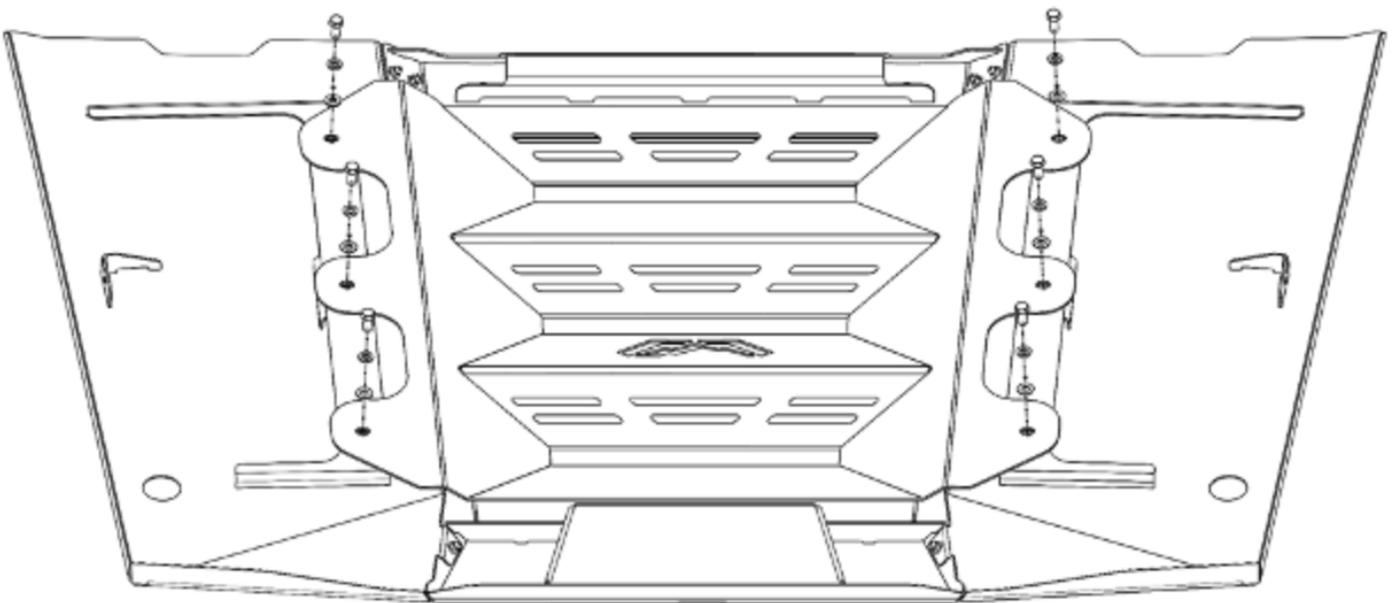

Figure 21
18. Install the hood vent into the hood assembly using the provided six (6) 5/16" hex head bolts with flat/lock washers. Figure 21.